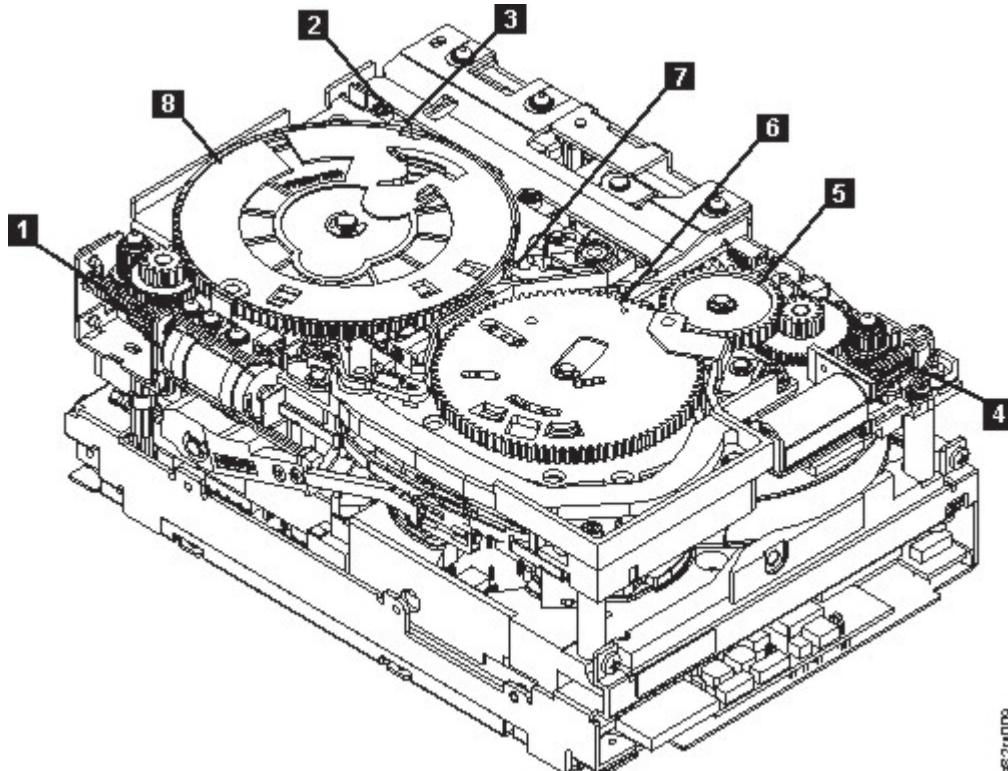
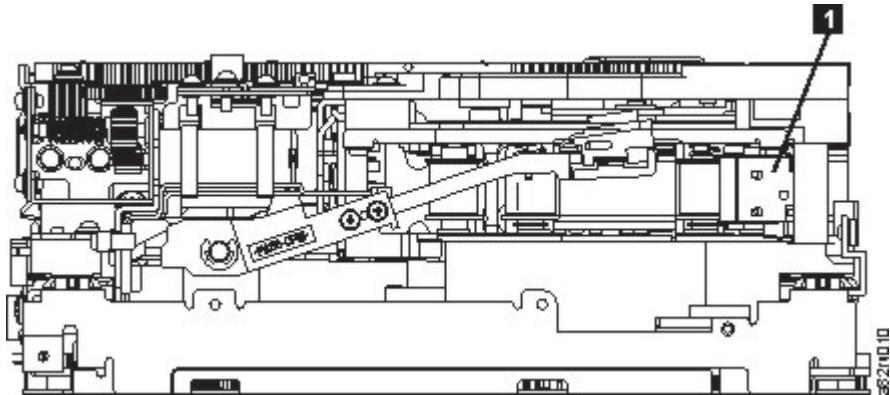

Figure 123. Drive with cover removed to reveal gear train.
Figure 124. Leader Block Assembly (LBA)
6. Locate the threader motor worm gear (**4** in Figure 123 on page 254) on the rear of the drive. Use your finger to rotate the threader motor worm gear and slowly rotate the threader mechanism gear (**6** in Figure 123 on page 254) clockwise.
This action rotates the threader motor worm gear (**4** in Figure 123 on page 254) clockwise, drawing the LBA into the cartridge.
7. As the tape leader block assembly (LBA) is secured in the cartridge, you hear the LBA retention spring clips click into place. If you do not hear the click, continue rolling until the threader motor worm gear (4 in Figure 123 on page 254) stops. The LBA is in the correct position.
- a) Loader mechanism gear (6 in Figure 123 on page 254) nearest the front of the drive that actuates the cartridge loader mechanism.
- b) Position of the rotate stub (3 in Figure 123 on page 254).
- c) Front loader motor worm gear (1 in Figure 123 on page 254). Rotating this gear allows the loader mechanism gear (8 in Figure 123 on page 254) to turn.
9. Rotate the loader motor worm gear (1 in Figure 123 on page 254) to turn the threader mechanism gear (6 in Figure 123 on page 254) counterclockwise. Continue turning until the rotator stub (3 in Figure 123 on page 254) loses contact with the lever (7 in Figure 123 on page 254). This action releases the LBA leader pin.
10. Rotate the threader motor worm gear (4 in Figure 123 on page 254) to turn the threader mechanism gear (6 in Figure 123 on page 254) counterclockwise. This action moves the LBA out of the cartridge and past the read/write head. Stop this rotation when the LBA is near the tape guide roller nearest the rear of the drive that is shown as 1 Figure 124 on page 255.
11. Continue rotating the loader motor worm gear (**1** in Figure 123 on page 254) until the rotator stub (**3** in Figure 123 on page 254) is positioned as shown. Notice that the rotator stub (**3** in Figure 123 on page 254) is nearly aligned with the cartridge loader tray guide bearing (**2** in Figure 123 on page 254).